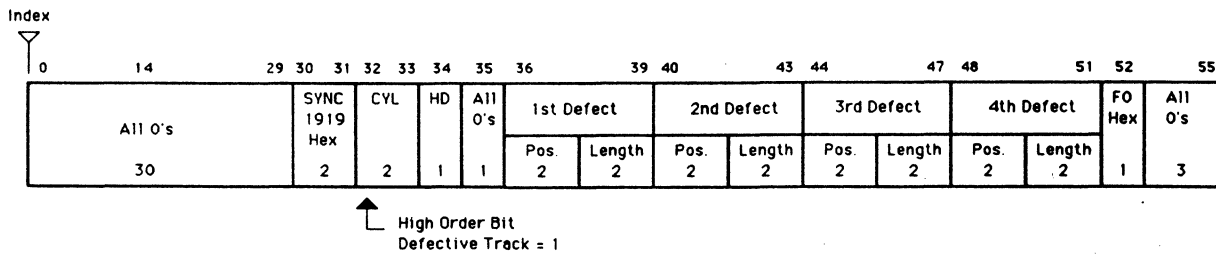

Figure 8-1. Defect Map Format
6. Figure 8-1 shows the format when there are no defects in the first 105 bytes after the index mark.